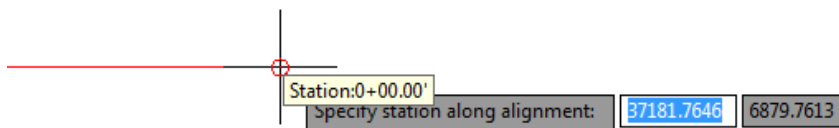

Figure 2-53 A tooltip showing the first station
4. Zoom in to view the alignment and click on **0+00** at the start of the alignment. As you move the cursor over the alignment, a tooltip showing stations is displayed, as shown in Figure 2-53. Now you are prompted to specify the offset distance.